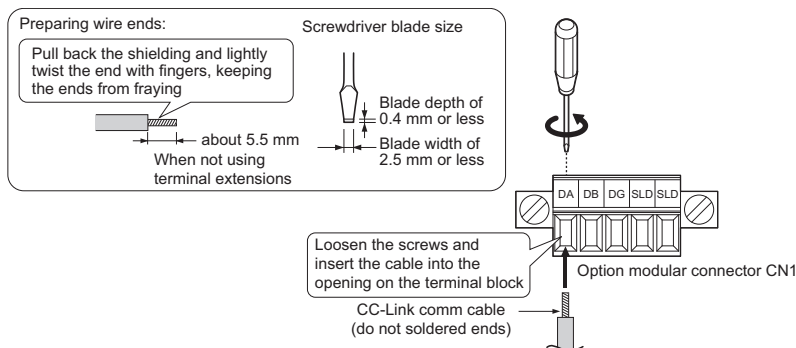

Figure 23 Connect Cable Wiring
1. Connect the communication cables to the option modular connector CN1 as shown in Figure 23.